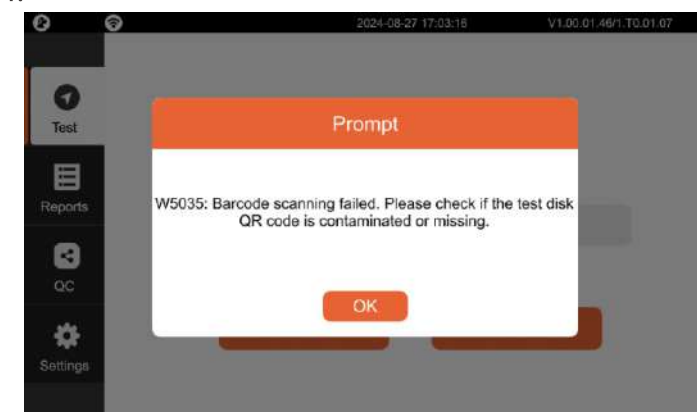

Figure 5-11
Note: If the analyzer failed to read QR code, the screen will show a message as Figure 5-11.
- 6) When it shows "W5035" error code as Figure 5-11, please click "OK" to open the drawer. Check the QR code on reagent rotor to make sure it is intact and uncontaminated. If no, please contact technical support.